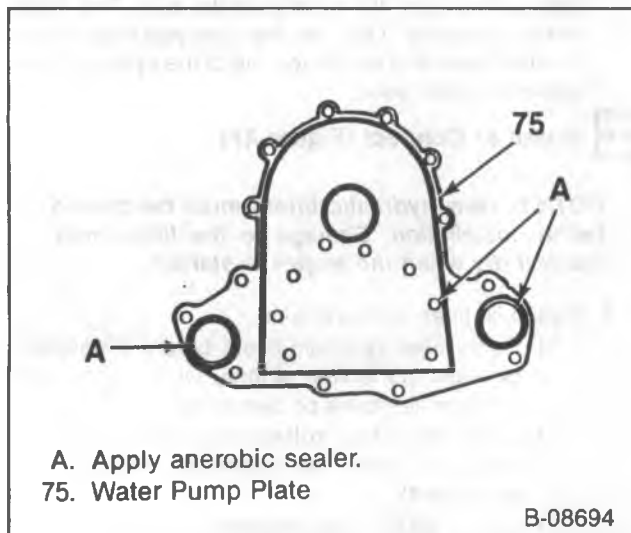

Figure 46—Applying Sealer to the Water Pump Plate
- Bolts (88) to 22 N·m (16 ft. lbs.).
- Apply a bead of anaerobic sealer (GM part no. 1052357 or equivalent) to the water pump plate as shown in figure 46.
- Apply sealant (GM Part no. 1052080 or equivalent) to the threads of bolts and studs (76).
- 4. Bolts and studs (76).